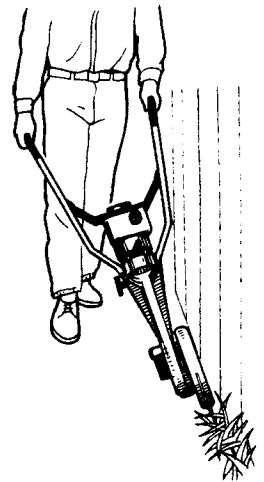

FIG 22
11. **Sideways Tilting:** Lower either left or right handle to achieve angle cutting (Fig 22).